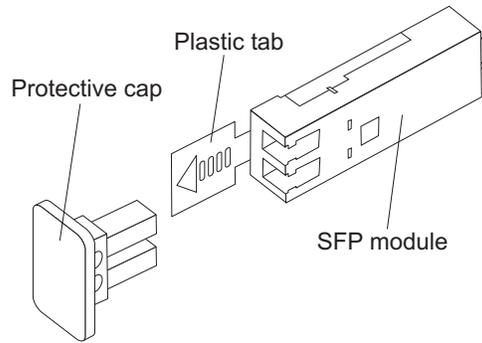

Figure 29. Installing an SFP module into the host port
4. Insert the SFP module into the host port until it clicks into place. See Figure 29 on page 49.